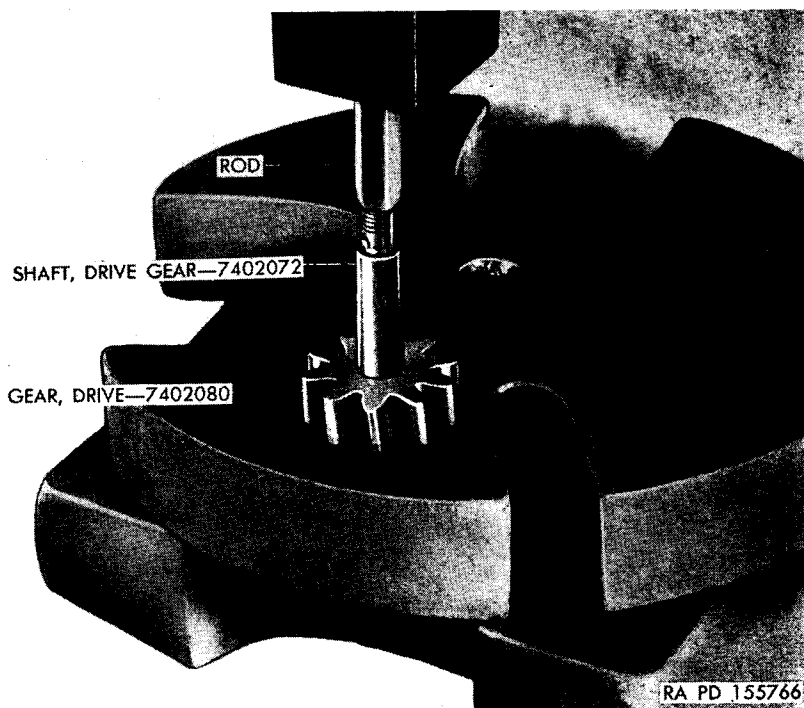

Figure 56. Pressing oil-pump-drive-gear shaft into drive gear.
b. Place oil-pump drive gear on bed of arbor press and press oil-pump-drive-gear shaft into gear flush with face of gear (fig. 56).